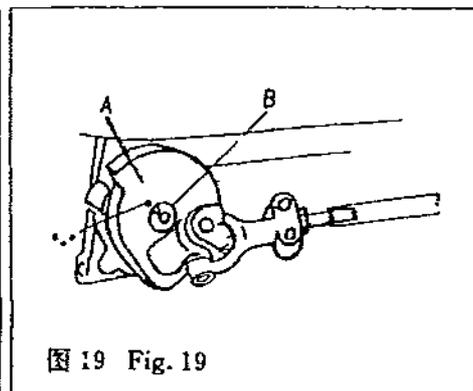

图 19 Fig. 19
(1) 钩线叉的基本位置 钩线叉的基本位置由钩线叉曲柄“A”与主轴“B”的位置决定。安装时应将曲柄上的圆点“·”标记对准主轴上的“V”形槽中心时，将钩线叉曲柄固定(图 19)。
Basic position of thread hook is decided by positions of crank "A" of thread hook and main shaft "B". When the mark "." on the crank coincides with the center of "V" groove on the main shaft, fix the crank of thread hook in place (Fig. 19).
③调整钩线叉曲柄上的圆点“·”标记与主轴“V”形槽的相对位置(图 19)对钩线叉的左右位置也有影响。所以调整钩线叉的左右位置，必须根据具体情况，在上述三步骤中仔细选择和反复进行调整，才能达到最佳状态。
(2) Positioning of location for pronged thread hook
③ Adjustment of location of the mark "·" on the crank of thread hook in relation to "V" groove on the main shaft (Fig. 19) impairs the positioning of the location of the thread hook. Thus micro-adjustment of the position for thread hook shall be made accordingly. An ideal condition
①运动关系调整 通过调整钩线叉曲柄上圆点“·”标记相对于主轴“V”形槽位置(图 19)。
① Adjustment of timing relation by regulating the position of the mark “·” on the crank of thread hook and “V” groove on the main shaft (Fig. 19).